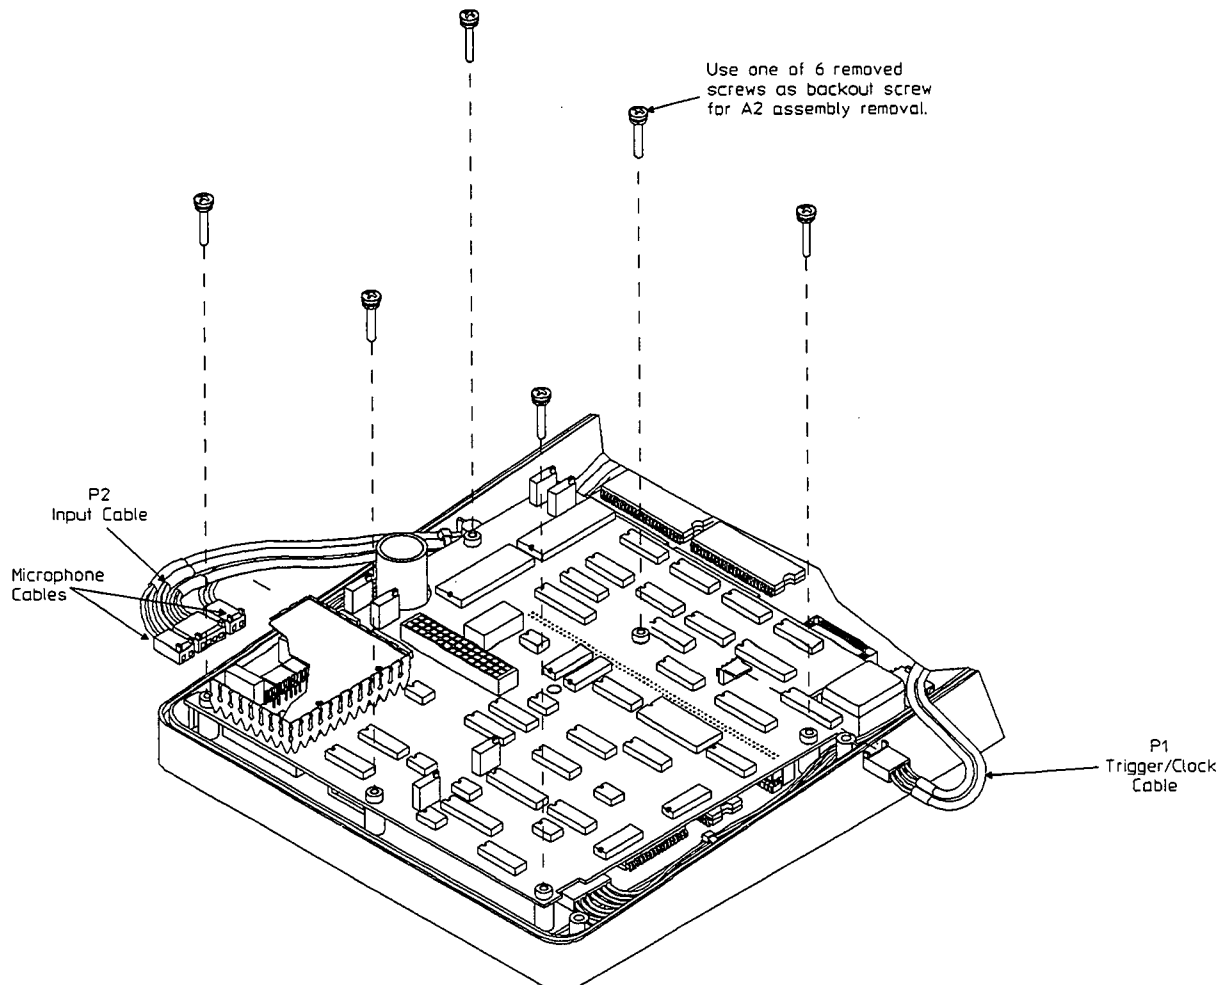

Figure 6-4.
4. Remove the six screws holding the A3 assembly as shown in figure 6-4.
6. Pull the A3 assembly away from the lower assemblies. It may help to place your thumb on the large capacitor shown at the left of figure 6-4 as you pull the A3 assembly up. (You will use one of the six A3 assembly screws as a backout screw for removing the A2 assembly.)